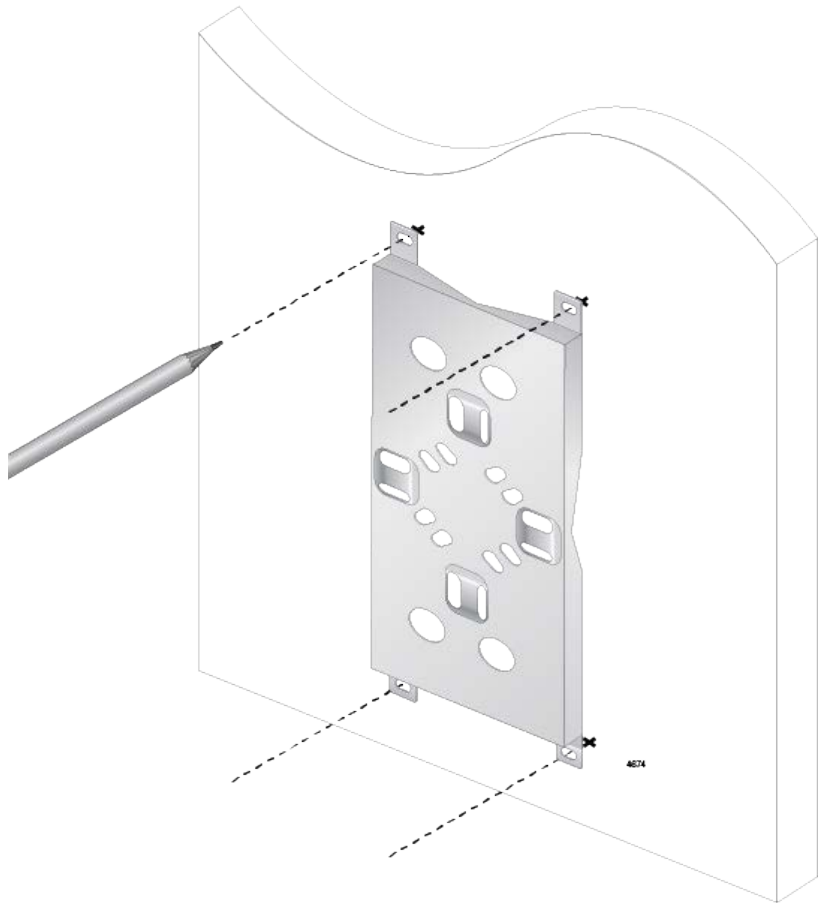

Figure 27. Marking the Mounting Base Holes on the Wall
2. Hold the mounting base on the wall at the desired location for the access point and mark the four mounting base holes with a pencil. See Figure 27 on page 57.